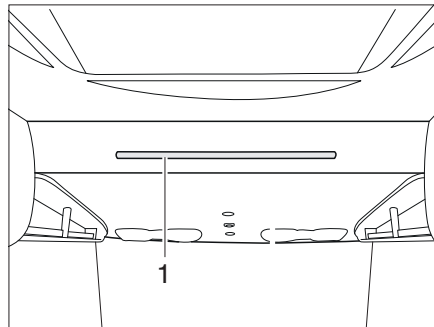

Fig. 160 Manual pull-down bed
- Pull the handle lever (Fig. 160,1) downwards in order to unlock the pull-down bed.
Attaching: ■ Hook the access ladder to the pull-down bed by attaching both brackets into the bar (Fig. 160,1).